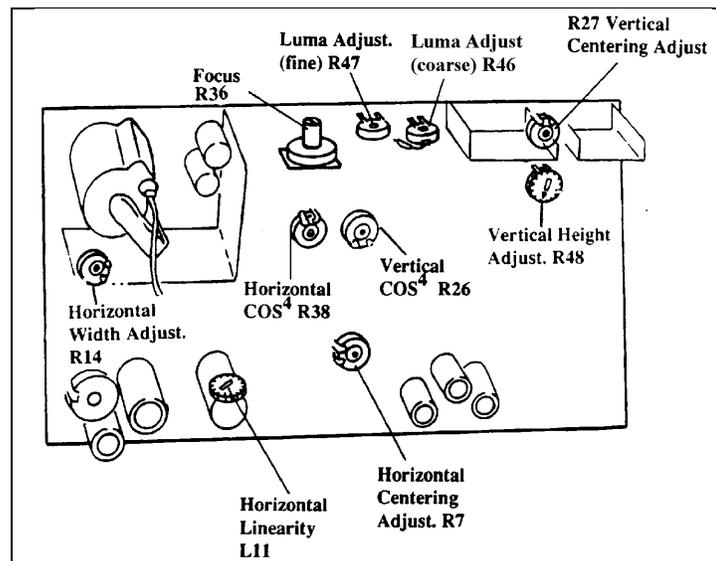

Figure 4-41. Adjustments on the CI-5000 Monitor Board
6. Make the following adjustments on the monitor board (Figure 4-41):